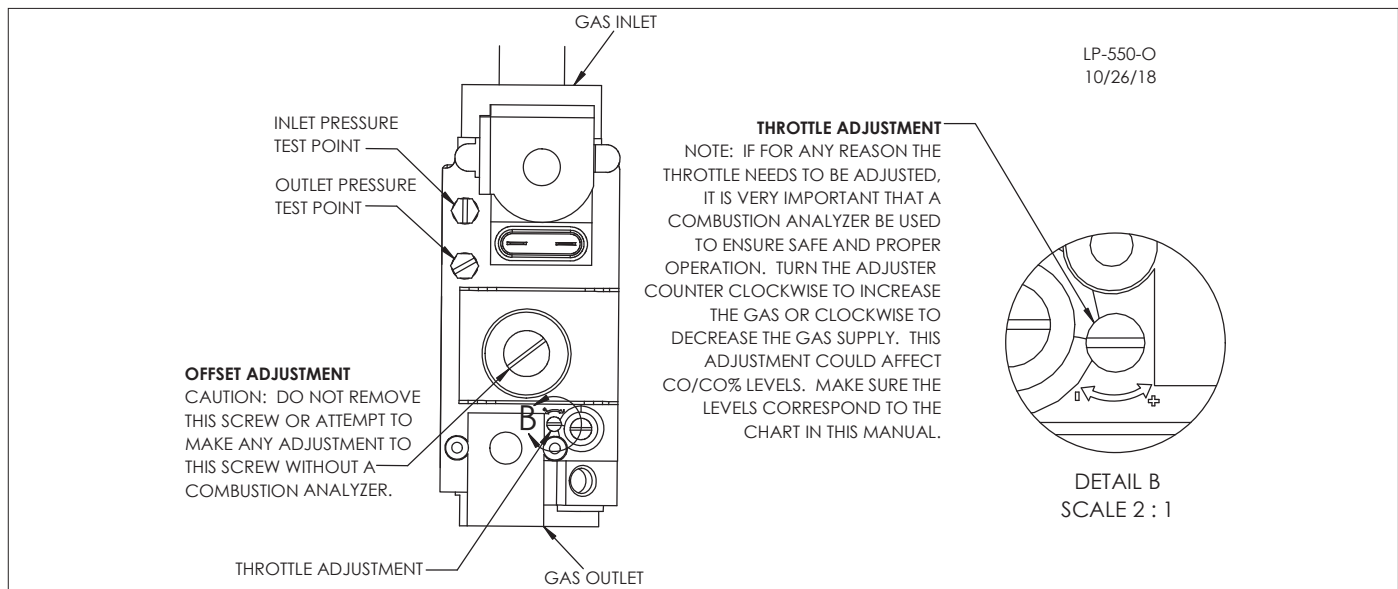

Figure 47 - 400 and 500 Model Gas Valve
2. Loosen the pressure tap with a small screwdriver. Refer to Figures 47 and 48 for location.